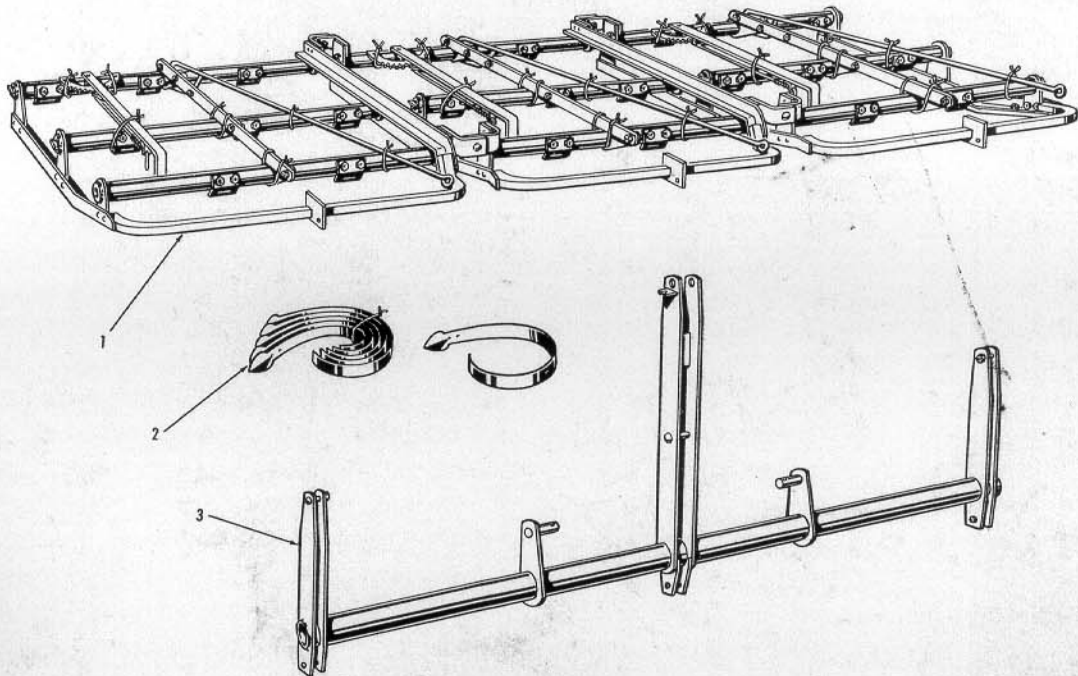

Fig. 6
3.	Drawbar assembly 1 piece—part No. 3K-BO-A-5300. (See Fig. 6).
(See Fig. 6)